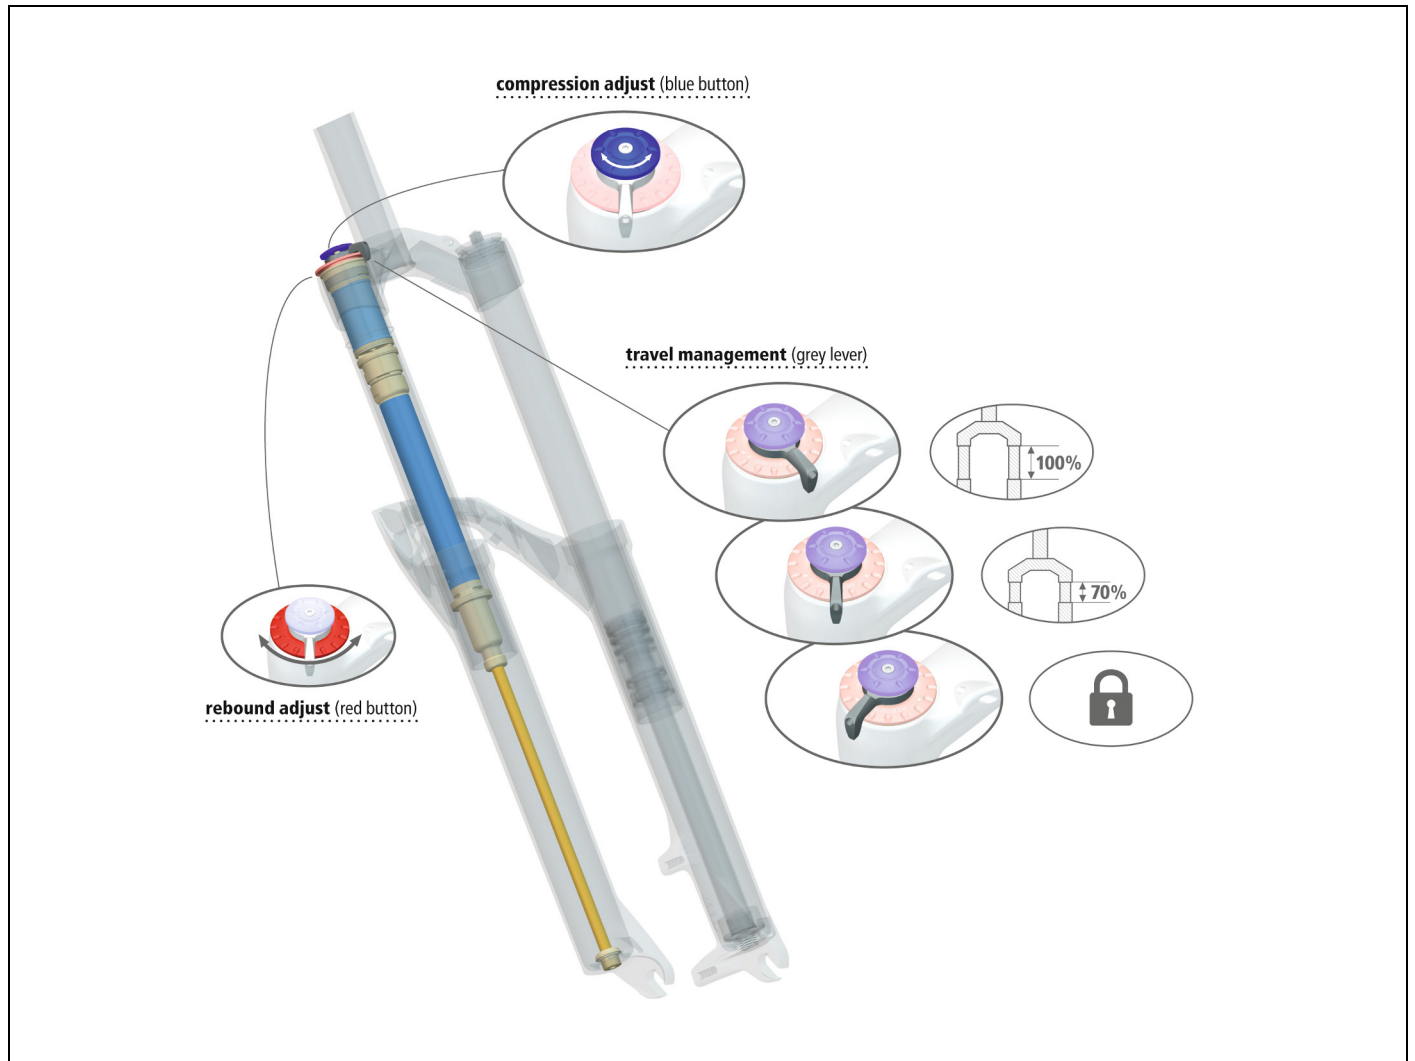
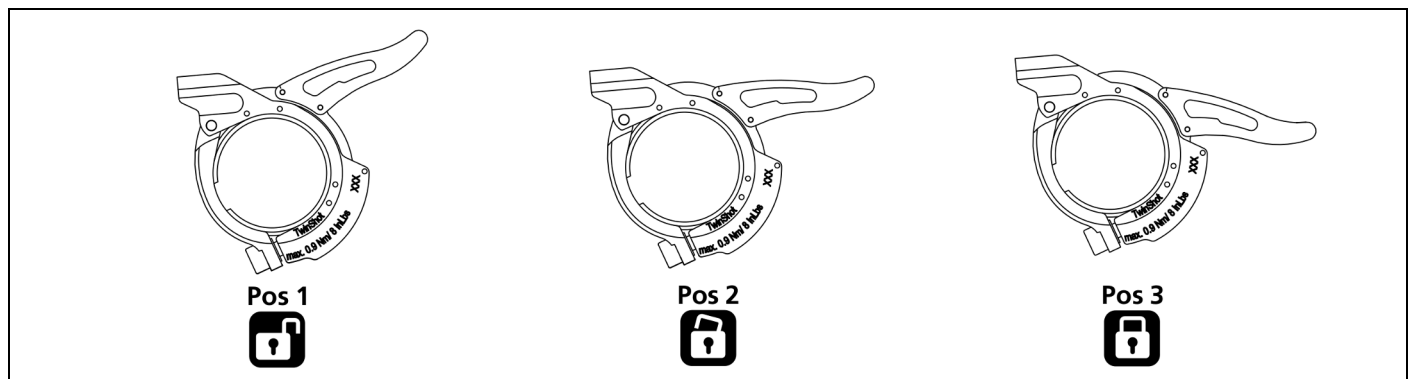
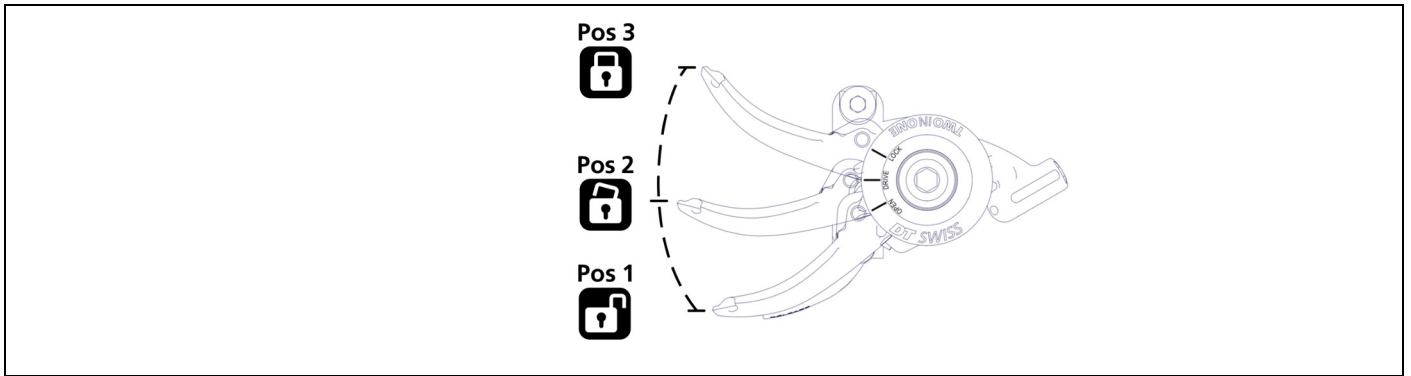

figure 4-1: Twin Shot Damping
figure 4-2: Lightweight Remote Lever
figure 4-3: Two In One Remote Lever
- Push the lever (see fig.4-1, p.24) in pos. 1 or
- push the remote lever (see fig.4-2, p.25 / fig.4-3, p.26) in pos. 1
To adjust the rebound damping, turn the red wheel (see fig.4-1, p.24) on top of the right stanchion.
The compression controls the sensibility of the fork. Turn the blue wheel (see fig.4-1, p.24) on top of the right stanchion.
The rebound-lockout is activated by pushing the lever (see fig.4-1, p.24) from pos 1 to pos 2. The fork cannot extend to it's full travel anymore. If a big force applies on the front wheel, the fork will be lowered by about a third of its full travel, during the ride it always comes back to this position.
The compression lockout is activated by pushing the lever (see fig.4-1, p.24 / fig.4-3, p.26) from pos 2 in pos 3. The fork will be blocked in it's actual position.
1. Activation of the rebound-lockout: Push the remote lever in pos 2 (see fig.4-2, p.25 / fig.4-3, p.26).
2. Deactivation of the rebound lockout: Push the remote lever in pos.1 (lightweight lever) or push the release lever (two-in-one lever).
3. Activation of the compression lockout: Push the remote lever in pos 3.
4. Deactivation of the compression lockout: Push the remote lever in pos.1 (lightweight lever) or push the release-lever (two-in-one lever).